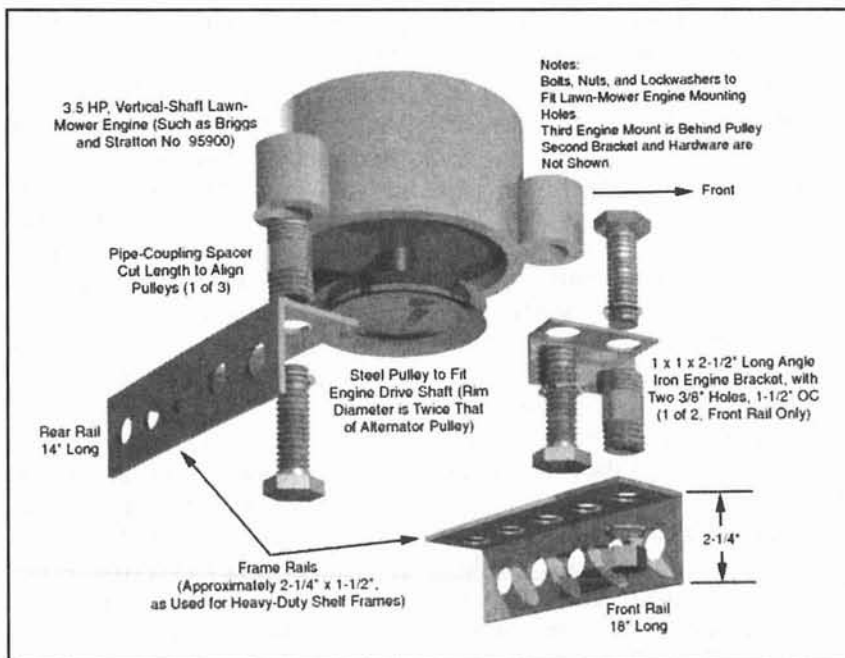

Figure 4—A pictorial of the engine mounting details.
Figure 2—One of the two small engine brackets is above the pipe-coupling spacer. The engine is at the upper right, the front rail at lower left. See Figure 4 for mechanical details.
Motor (1)—(See Figure 4.) After searching for a used engine, I bought a new, no frills lawn mower (for \$99) and kept the engine. Recent models have a safety lever connected to a **KILL** switch on the engine that grounds a *neutralizing wire* to stop the engine. This neutralizing wire connects to the control box ignition switch and protection circuit.
Motor Brackets (2)—Heavy-duty 1×1-inch angle iron. See Figure 4.
Most lawn-mower engines seem to have the same three reinforced mounting holes on their base. (See Figure 4.) Two of the three holes line up with the front, so the long rail goes there. The third hole is at the "rear" and the shorter rail bolts to it. The engine mounts—via two angle-iron brackets, bolts and spacers—to the narrow flange of each main rail; the wide flanges become the vertical sides of the Pup's base. (Refer to Figure 2.)